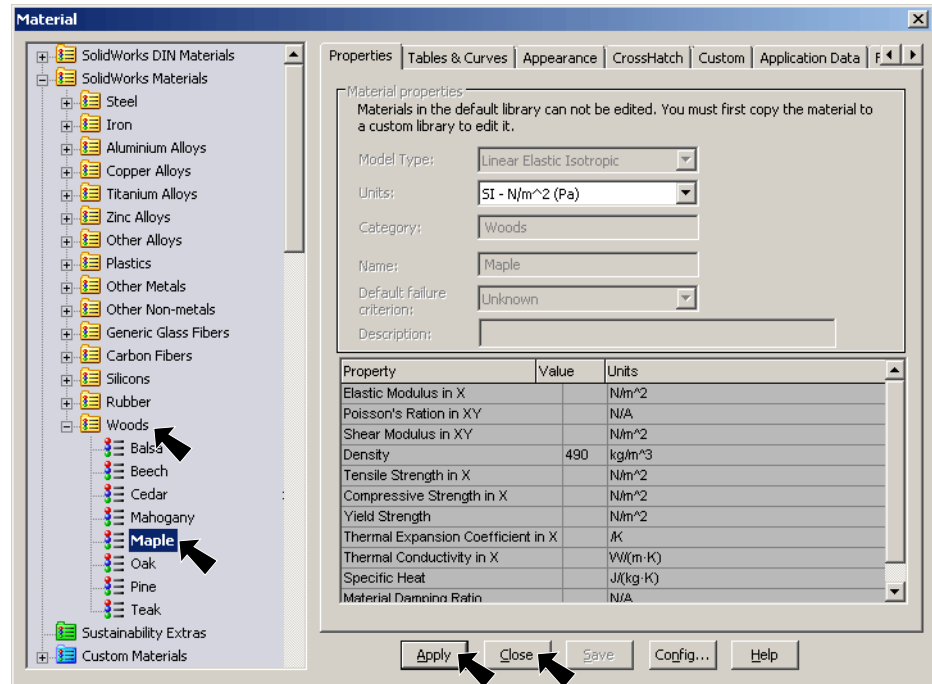

Fig. 10
Step 2. **Expand Woods** (click the +) in the material tree and click **Maple**, **Fig. 10**. Click **Apply** and **Close**.